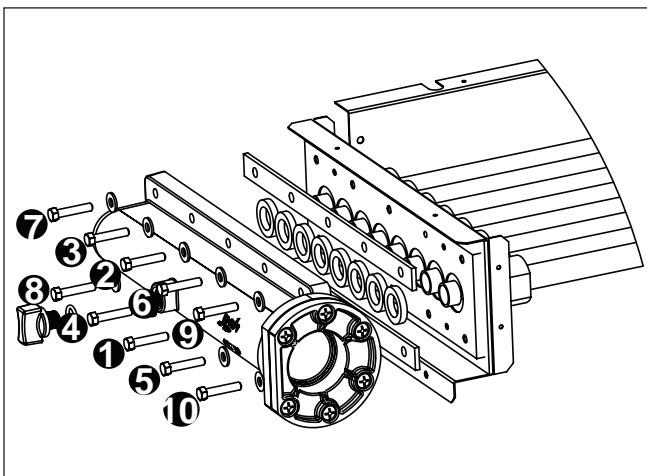

Figure 14 Header Bolt Tightening Sequence
13. Thread on the ten (10) nuts and washers and hand tighten.
15. Thread on the ten (10) nuts and washers and hand tighten.
16. Use a torque wrench to tighten the bolts on each header to four (4) foot-pounds. The bolts must be tightened in the sequence indicated in Figure 14.